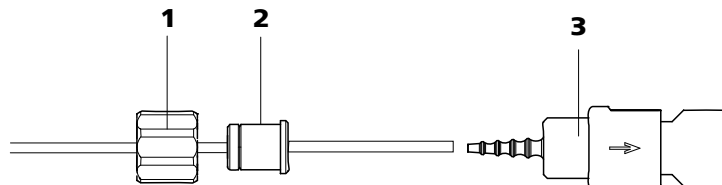

Figure 30 Install pump tubing connection with filter
- **Case A:** a 6.2744.180 pump tubing connection **with filter** (see figure 30, page 47) or